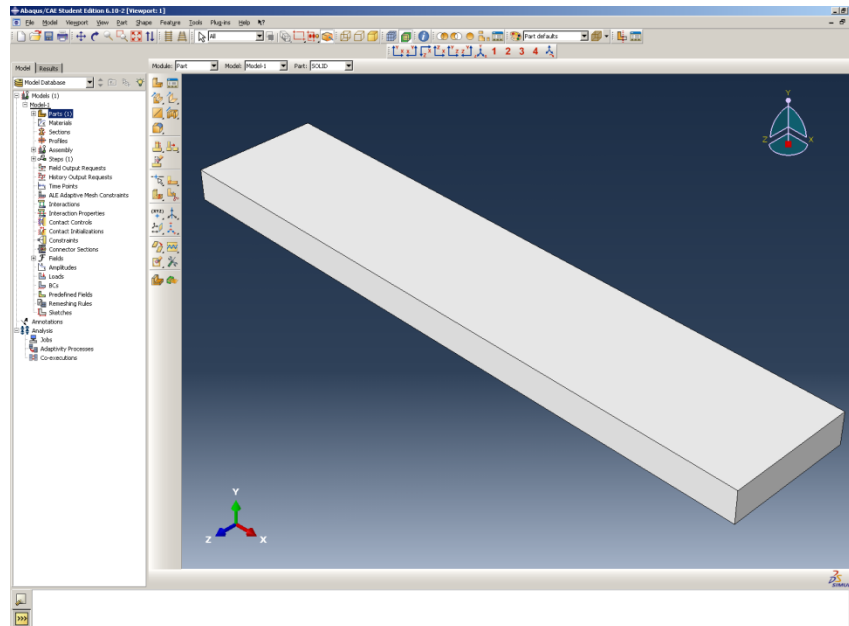

Figure 5. Final Model Geometry
- The **Edit Base Extrusion** dialog box will appear. Change **Depth:** to 0.2 and click **OK**. Sketch mode will automatically be exited, and the model geometry should look identical to the beam shown in Figure 5.